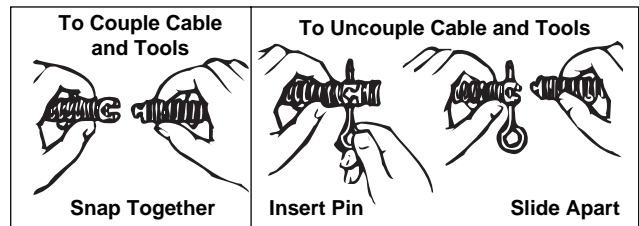

Figure 6 – Coupling and Uncoupling Tools
7. Select and install the proper tool to the end of the cable. The T-Slot Coupler allows the tool to be snapped into the cable coupler (Figure 6). To remove tool, use the pin key to depress the plunger and slide the coupling apart.